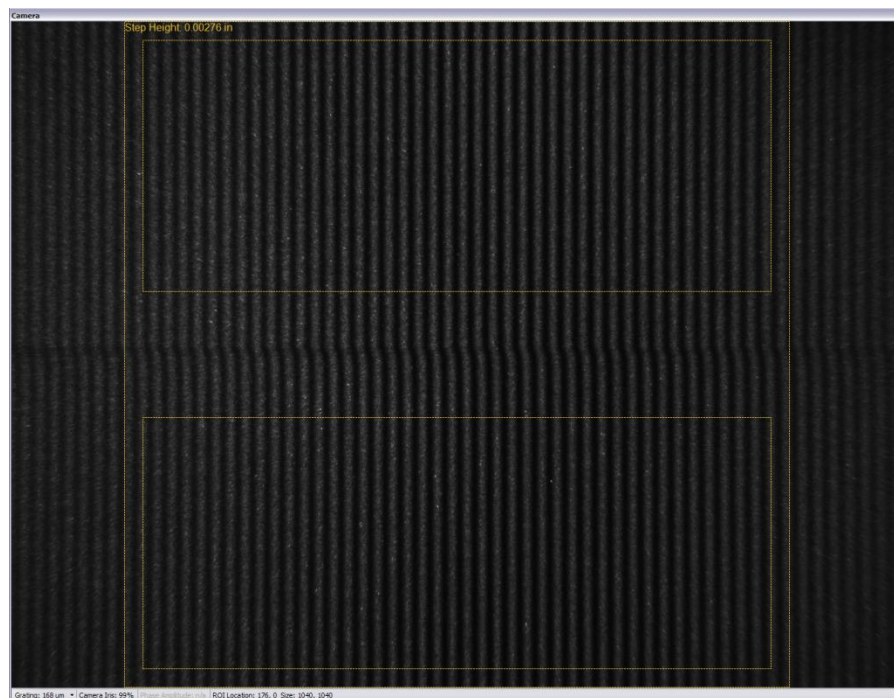

Figure 3.12 Calibration Block Image
7. In this step, a large rectangle with two inner rectangles is shown on the screen. The two small rectangles define the two surface areas used to calculate the step height. Move the sample along its plane so that the intermediate step line is between the two inner rectangles (**Figure 3.12**). Exact alignment is not required because the calculation is only based on the inner two rectangles. Adjust the iris ring of the projection lens to achieve optimal fringe contrast.